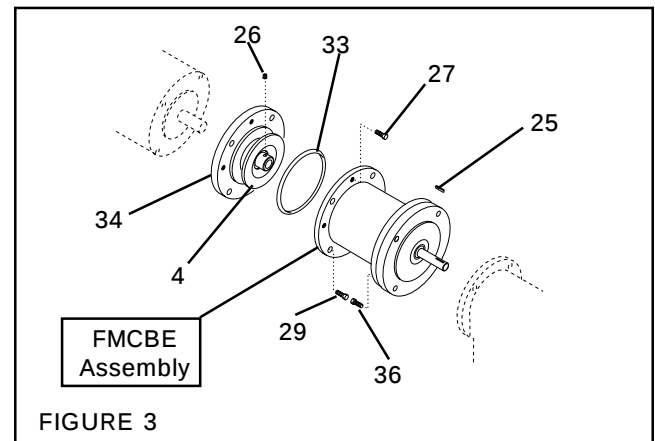

FIGURE 3
2. Slide the Female Pilot (Item 34) and the Drive Disc (Item 4) onto the motor shaft (See Figure 3).
3. Tighten the Set Screw (Item 26) to lock the Drive Disc (Item 4) onto the motor shaft (See Figure 3).
4. Coat the O-ring Seal (Item 33) and the seal contact surface with a film of O-ring lubricant, then wipe off any excess lubricant (See Figure 3).
5. Place the O-ring Seal (Item 33) onto the Female Pilot (Item 34) O-ring diameter (See Figure 3).
6. Slide the FMCBE Assembly onto the Female Pilot (Item 34) and the Drive Disc (Item 4) (See Figure 3).
7. Using eight Nexen supplied 10-24 x 0.750" Hex. Head Caps Screws (Item 27), secure the FMCBE Assembly to the Female Pilot (Item 34) and Drive Disc (Item 4) (See Figure 3).
Head Cap Screws (Item 29), secure the Female Pilot, Drive Disc, and FMCBE Assembly to the motor (See Figure 3).
12. Using four supplied 0.375-16 x 1.250" Hex. Head Cap Screws (Item 36), secure the Male Pilot end of the FMCBE Assembly to the gear reducer (See Figure 3).